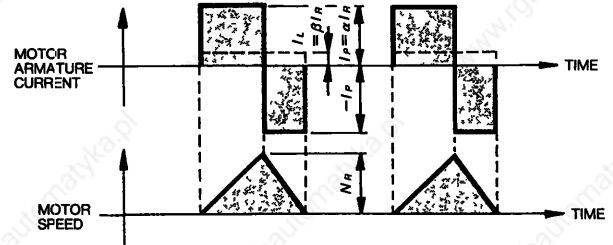

Fig 4. 4 Timing Chart of Motor Armature Current and Speed
- When the motor accelerates, runs at constant speed, and decelerates in a continuing cycle without being at standstill (Fig 4 5)